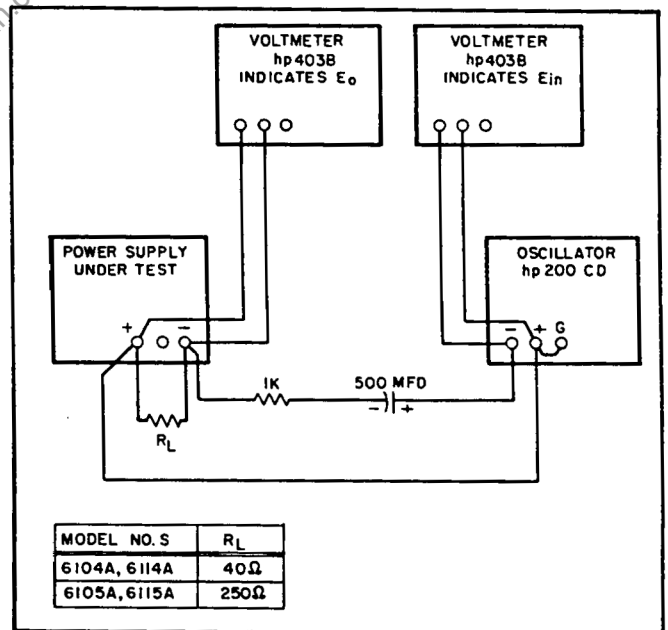

Figure 5-7. Output Impedance, Test Setup
- Connect test setup shown in Figure 5-7.